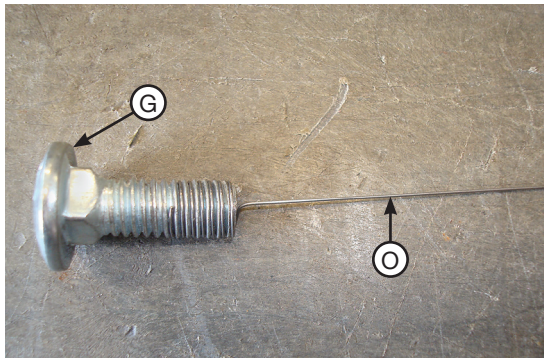

fig. D.9
- Using the 3/8" wire bolt leader tools (O), thread over two 3/8"-16 x 1" carriage bolts (G) (Fig. D.9).